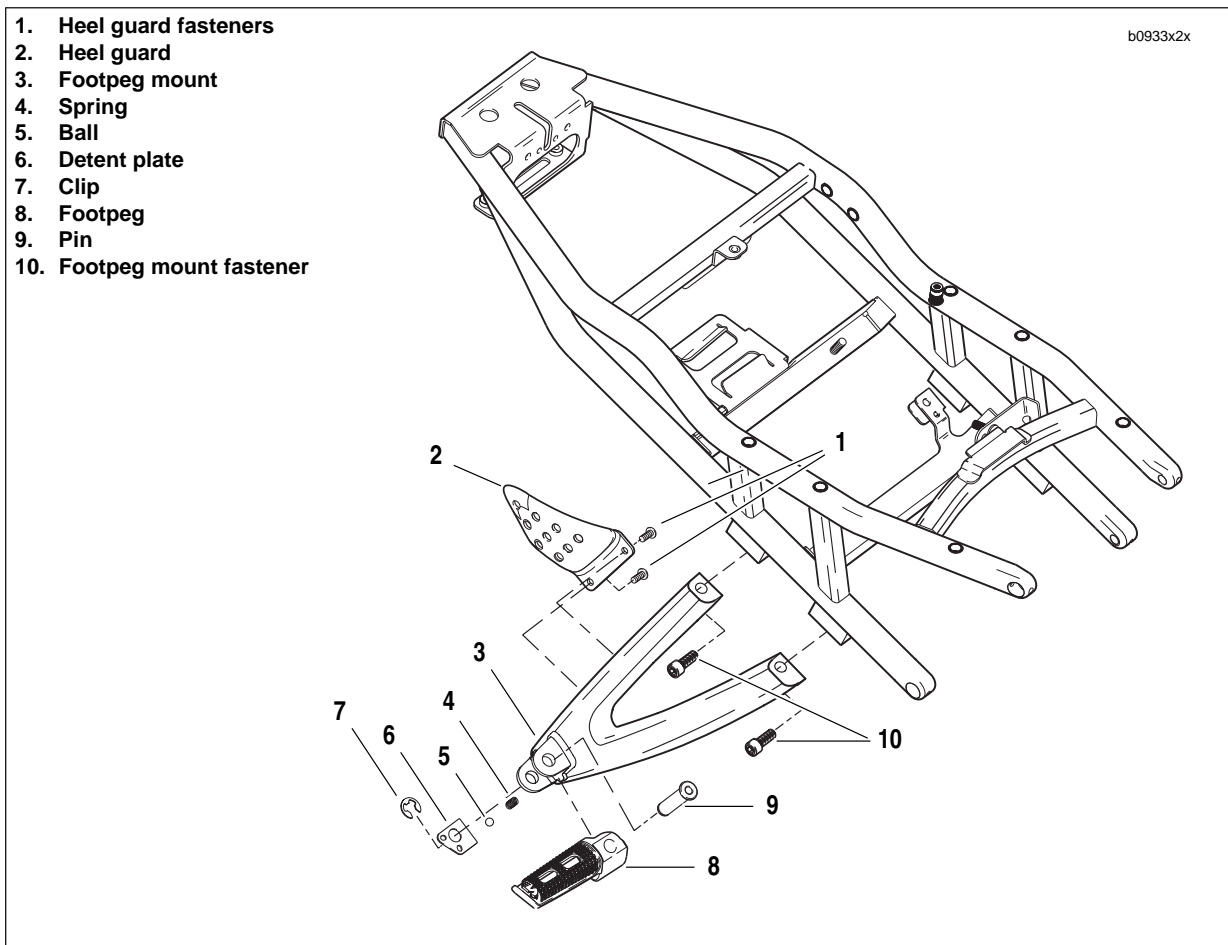

Figure 2-111. Passenger Footpeg, Mount and Heel Guard Assembly
1. See Figure 2-111. Remove clip (7).
2. Remove footpeg pin (9).
3. Remove footpeg (8), detent plate (6), ball (5) and spring (4).
1. See Figure 2-111. Remove heel guard fasteners (1).
2. Remove heel guard (2).
1. See Figure 2-111. Remove footpeg mount fasteners (10).
2. Remove footpeg mount (3).
1. See Figure 2-111. Position footpeg mount (3) onto sub-frame tail assembly.
2. Install footpeg mount (3). Using LOCTITE 271 tighten fasteners (10) to 25-28 ft-lbs (34-38 Nm).
1. See Figure 2-111. Position heel guard (2) onto footpeg mounts (3).
2. Install heel guard (2).
1. See Figure 2-111. Position footpeg (8), detent plate (6), ball (5), and spring (4) on to footpeg mount (3).
2. Install footpeg pin (9).
3. Install clip (7).